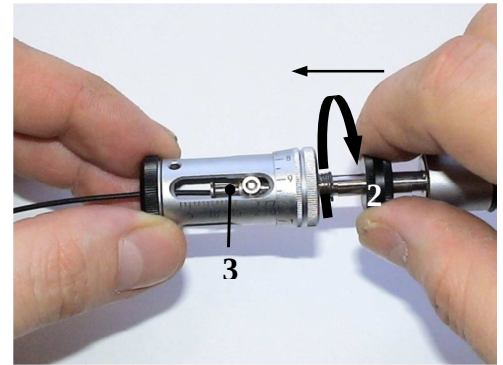

Fig. 9 Stopper setting
- Release the length setting ring gauge (2) by twisting it in the direction of the arrow, pull it as far back as it will go and fix into position. (Fig. 9)
- Release the length setting ring gauge again **(2)** by twisting it in the direction of the arrow, and push forwards until the stopper **(3)** is touching the cable. Then fix the length setting ring gauge **(2)** into position by twisting it in the opposite direction (**Fig. 9**).